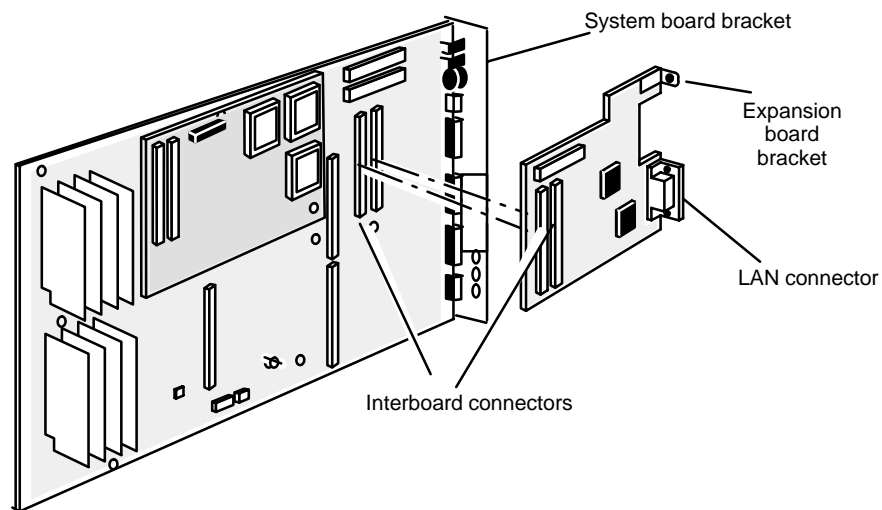

Figure 9-13 Separating the Interboard Connectors
4. Separate the interboard connectors on the back of the board from the connectors on the system board as shown in Figure 9-13.